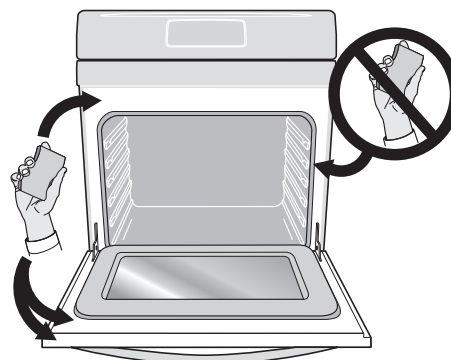

Figure 27: Oven door area to clean and not clean (gasket).
- Clean any soil from the oven frame, the door liner outside the oven door gasket and the small area at the front center of the oven bottom (Figure 27). These areas heat sufficiently to burn soil on. Clean using soap and water prior to starting Self Clean.
- Do not clean the oven door gasket (Figure 27). The woven material of the oven door gasket is essential for a good seal. Care should be taken not to rub, damage or remove the gasket. Do not use any cleaning materials on the oven door gasket. Doing so could cause damage to the door gasket.